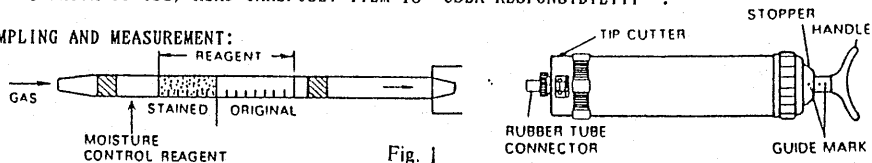

Fig. 1
- ① Break both ends of detector tube.
- ② Insert the detector tube into aspirating pump securely as shown in Fig. 1. (Arrow mark shall point to the pump.)
- ③ Align the guide marks on the shaft and stopper of the aspirating pump.
- ④ Pull pump handle to full stroke until it locks and wait for 1.5 minutes or until confirmation that sampling is completed (See descriptions of the flow indicator in the pump instructions).
- ⑤ On completion of sampling, read the scale at the top of the stained layer.